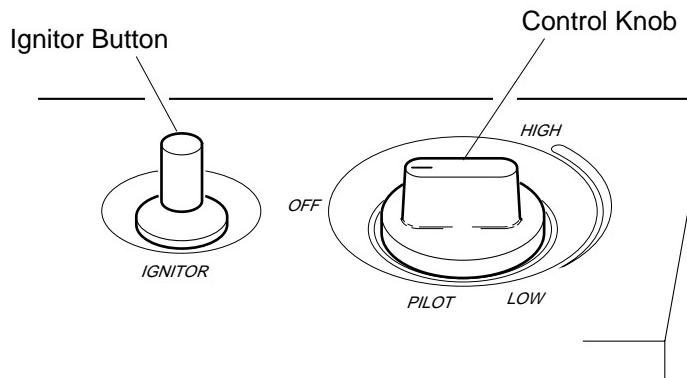

Figure 18 - Control Knob In The OFF Position
4. Wait five (5) minutes to clear out any gas. Then smell for gas, including near the floor. If you smell gas, STOP! Follow "B" in the safety information at the top of page 20. If you don't smell gas, go to the next step.
5. Press in control knob and turn counterclockwise ↘ to the PILOT position. Keep control knob pressed in for five (5) seconds (see Figure 18).